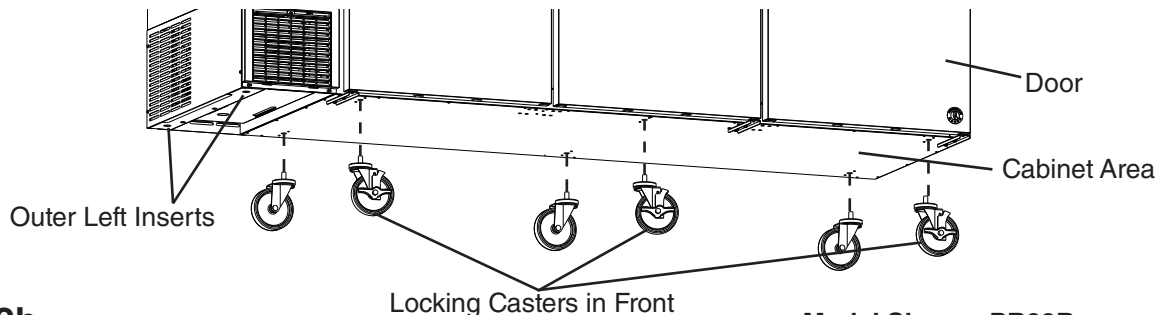

Fig. 2b
- c) **PR93B(-DX):** Attach the 6 casters under the cabinet area. See Fig. 2b. **WARNING! On PR93B(-DX) models, do not attach the casters under the compressor area in the outer left inserts. NOTICE! Ensure casters are completely threaded into appliance and tight.**